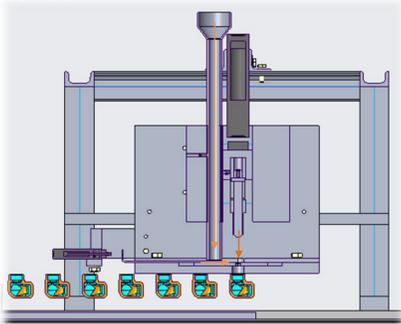

Fig 4: Ring assembler
- Tin rings are buffered in the long tube (fig 4). A pneumatic pushrod places them under the mandrel/pusher.